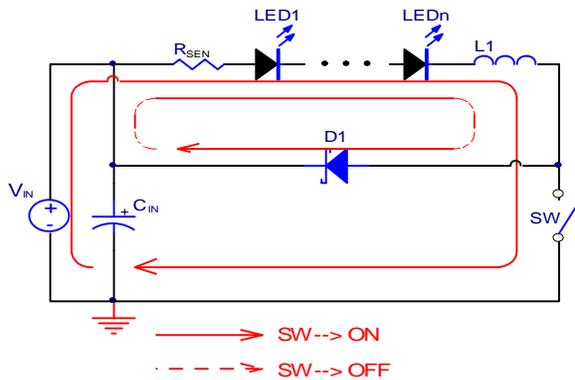

Figure 5 Power loop of MBI6655
10. When the SW is on/off, the direction of power loop should keep the same way to enhance the efficiency. The sketch is shown as figure 5.